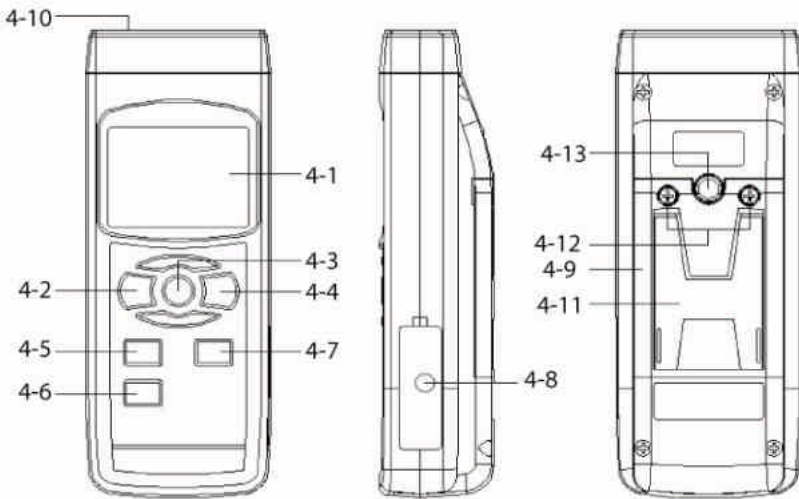

Fig. 1
1. Power on the meter by pressing the “Power Button” (4-2, Fig. 1). The meter will go through a short self test.
2. Select the sensor type by pressing the “Sensor Button” (4-5, Fig.1). As you press this button multiple time the meter will display the sensor type along the bottom of the LCD. You will see it change between K, J, T, E & R.
3. Once you have set it for the desired sensor type, insert the probe in to the “Thermocouple Input Socket” (4-10, Fig. 1).
4. Select the unit of measure by pressing the “°C/°F Button” (4-7, Fig.1).
1. Simultaneously press and hold the “Hold Button” (4-3, Fig. 1) and “REC Button” (4-4, Fig.1).
3. Using the “Up Button” (4-7, Fig. 1) to increase the offset value and/or the “Down Button” (4-6, Fig.1) to decrease the offset value.
1. When inserting the measurement probes in to the “Thermocouple Input Socket” (4-10, Fig. 1), note the correct polarity usually indicated by the size of the plug blades (negative usually being the wider of the two).
1. During a measurement, press the “Hold Button” (4-3, Fig. 1) to hold the displayed value on the LCD. The “HOLD” symbol will also be displayed on the LCD.
2. Pressing the “Hold Button” (4-3, Fig. 1) will release the data hold function.
1. To record the maximum and minimum readings, press the “REC Button” (4-4, Fig. 1). The REC symbol will be displayed on the LCD. By pressing the “REC Button” (4-4, Fig. 1) you can toggle through the Max and Min values.
2. To stop using the REC function, press and hold the “REC Button” (4-4, Fig. 1) for at least 3 seconds.
2. To remove any displayed value from the LCD you can press the "REL Button" (4-6, Fig. 1). The display will then go to zero and you will see the REL marker in the top portion.
4. To cancel the REL function, simply press the "REL Button" (4-6, Fig. 1). The REL marker will then disappear from the LCD.
To disable this function, select the memory record function during a measurement by pressing the "REC. Button" (4-4, Fig. 1).
This instrument has RS232 PC serial interface via a 3.5 mm terminal (4-12, Fig. 1).
2. Open the “Battery Compartment” (4-9, Fig. 1) by first loosening the “Battery Cover Screws” (4-12, Fig. 1).
3. Replace the batteries with “good” batteries noting the correct polarity . Replace “Battery Compartment” (4-9, Fig. 1) and “Battery Cover Screws” (4-12, Fig. 1). Ensure the cover is securely fastened.